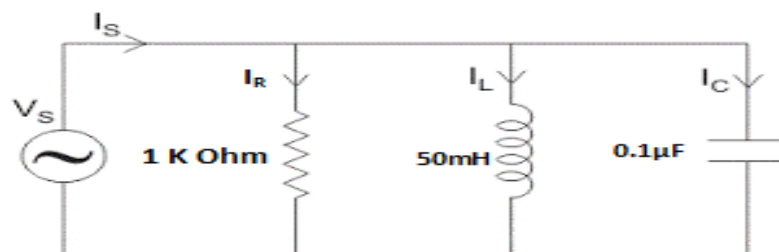

Fig.2
In this experiment the locus of series RC circuit , C is fixed and R is variable as shown in fig 2.
In the circuit (parallel RLC circuit) shown in figure.2, the condition for resonance occurs when the susceptance part is zero. The frequency at which the resonance will occur is known as resonant frequency. Resonant frequency,
1. Connect the circuit as shown in fig.1 for series resonant circuit & fig.2 for parallel resonant circuit.